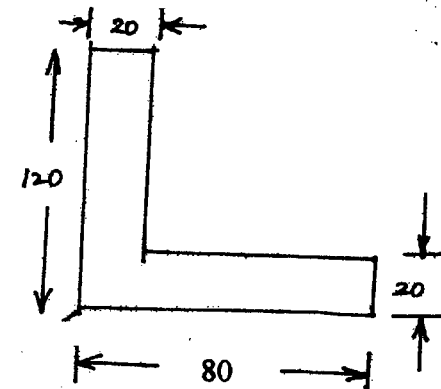

Fig 5
- c) Find out the centroid of an L - Section of  $120 \text{ mm} \times 80 \text{ mm} \times 20 \text{ mm}$ . (Fig 5)